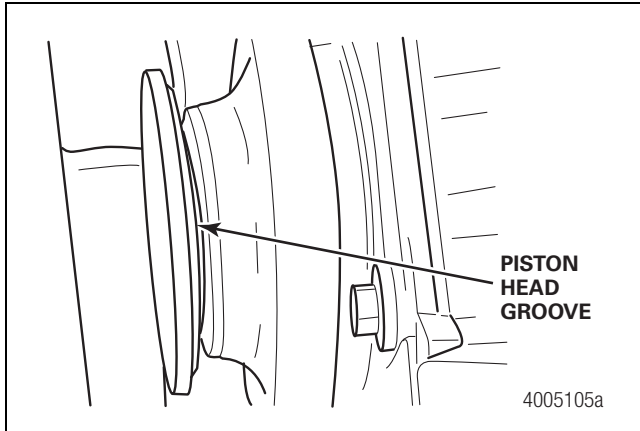

Figure 6.16
9. Carefully install the piston boot into the piston head groove. Verify that the boot is correctly seated in the piston head groove. Figure 6.16.